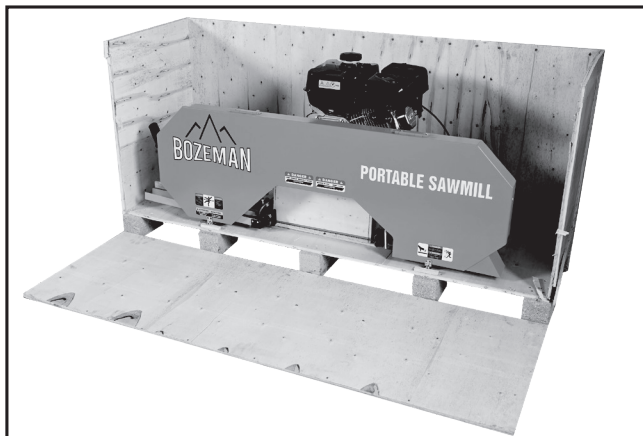
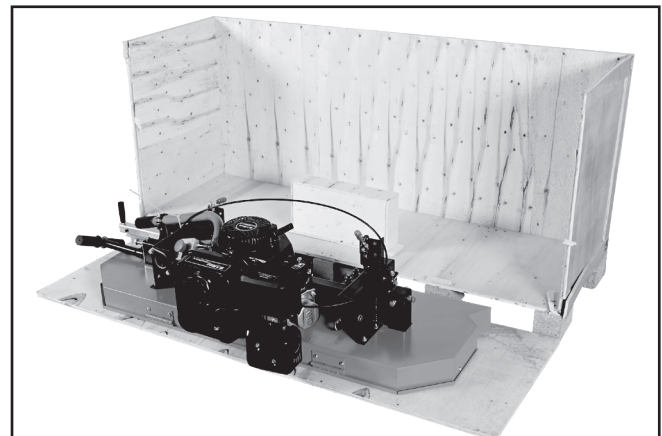

Fig. 18
Fig. 19
Step 12: Remove the Crate Bottom. Place a moving blanket, or the plywood from the crate, in front of the Sawmill Head and crate bottom as shown (Fig. 18). Check that the Blade Wheel Door latches are latched, then with the help of another person, slowly place the Sawmill Head onto the blanket, or plywood to rest on the Blade Wheel Doors (Fig. 19). The crate may now be removed.
It is unnecessary to unbolt the shipping bracket (Fig. 19) because the Sawmill Head is only resting on top of the bracket.